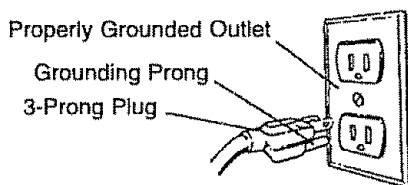

Figure 4 - 3-Prong Receptacle
Refer to Figures 4 and 5.
- Grounding plug should be plugged directly into a properly installed and grounded 3-prong grounding-type receptacle, as shown (Figure 4).